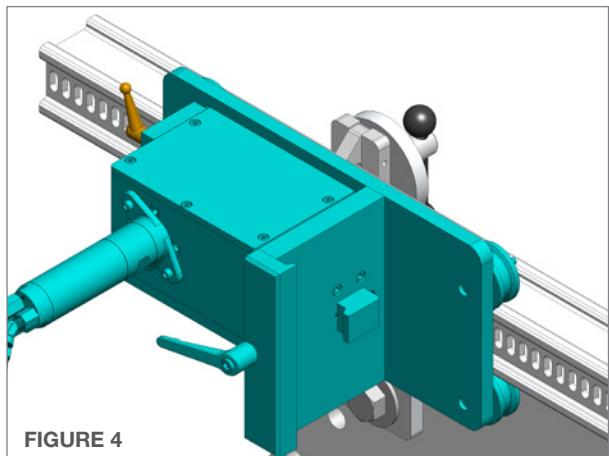

FIGURE 4
SCAFFOLD QUICK CLAMPS (LWP 554) are for use with scaffolding in situations where they may be no way to clamp directly onto the heat exchanger. (Figure 4)
4. Loosen the **Quick Adjust Handle** and pull the gearbox away from the carriage plate. This will allow the **Horizontal Drive Carriage** to slide onto the rail without pneumatic power, to rotate the drive. Center the carriage on the top rail and push the gearbox back toward the carriage plate. This will engage the gear into the rail slots. Verify the gear is engaging the slots correctly and tighten the quick adjust handle. (**Figure 4**)